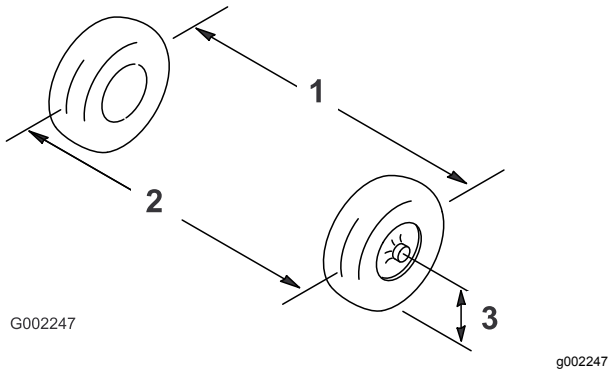

Figure 83
2. Measure the distance between both of the front tires at the axle height at both the front and rear of the front tires (Figure 83).